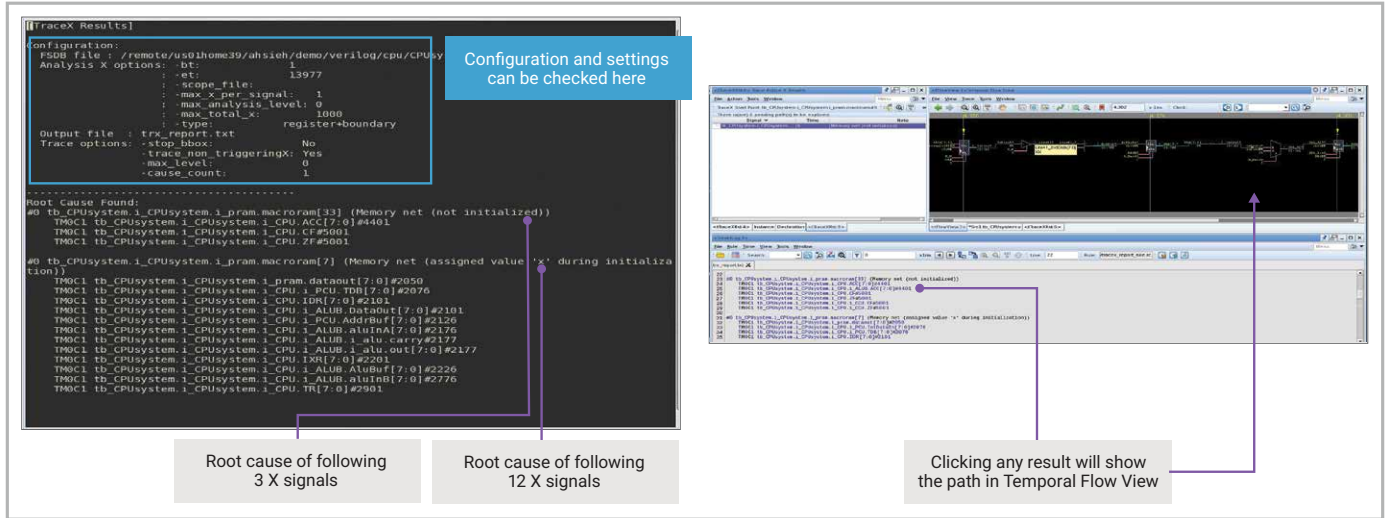

Figure 7: Reducing failures due to unknowns in XRCA
Verdi RDA includes valuable features to reduce the number of failures related to unknown (X) values that must be analyzed by users. This is important because Xs are notoriously difficult to debug. They typically cover many cycles and levels of logic, and they result in many fanout cones of logic with a single root cause. XRCA is a technology that analyzes single and multiple X paths to the root causes. If this results in multiple paths being sourced from a single root cause, those paths are grouped into a single group. As shown in Figure 7, these results are captured in a report that can be brought into Verdi for analysis and understanding to quickly fix the issues. XRCA automatically scans the X signals in FSDb files and can handle large numbers of such signals to reduce user debug time.